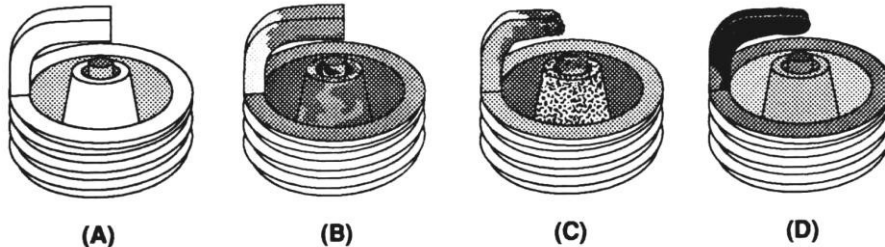

Figure 13 Spark Plug Condition
1. Perform a dynamometer pull or a full throttle pass down the racetrack. Note the power reading or vehicle mph (not e.t.). Examine the spark plugs for an indication of lean or rich nitrous/fuel conditions (refer to Figure 13 for tips on reading the spark plugs). For this application, the air/fuel mixtures at WOT tend to be very rich in stock form. You may wish to examine a plug after a NO-nitrous pass or dyno pull for comparison purposes.